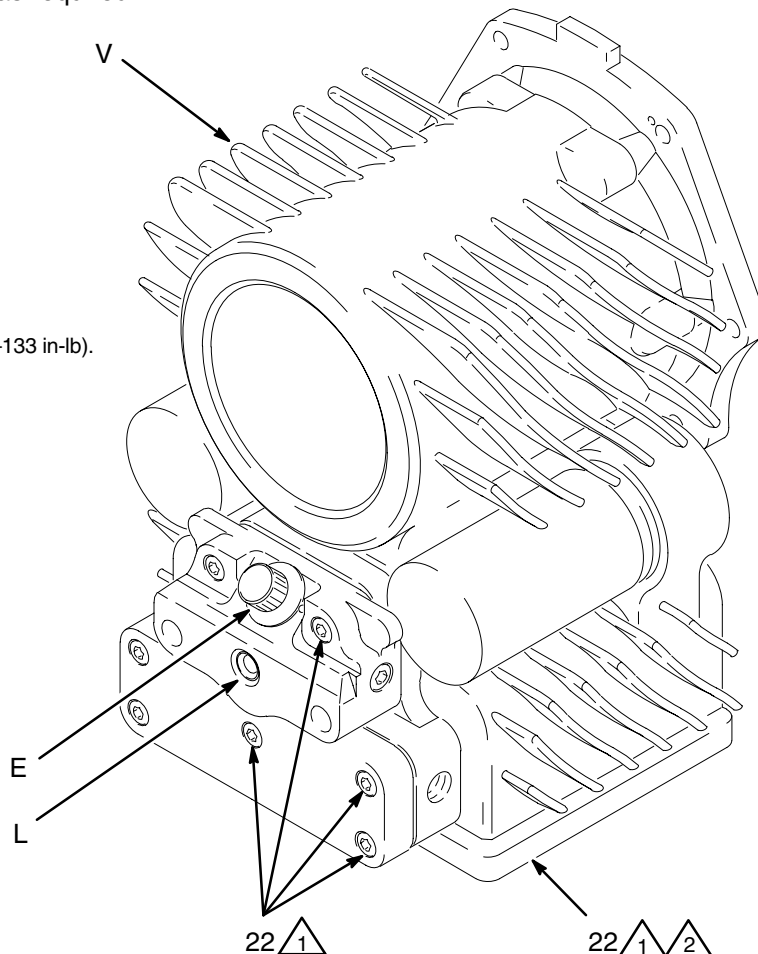

Fig. 7
1. Set the torque control (E) to zero (0). See Fig. 7.
2. Turn on the power source to the motor. The power indicator (L) will light.
3. Turn the torque control (E) slowly clockwise until the pump starts.
4. Use the torque control (E) to adjust the speed of the pump. Always use the lowest speed necessary to get the desired results. At speeds over 60 cycles per minute the motor will shut off automatically to prevent premature wear. To restart, shut off power to the motor, set the torque control to zero (0), turn on power to the motor, and turn the torque control slowly clockwise until the pump runs at less than 60 cycles per minute.
2. Turn the torque control (E) to zero (0). See Fig. 7.